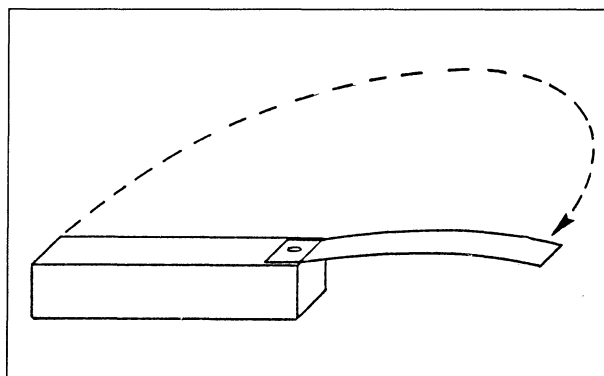

Fig. 2 I-core (yoke) with arresting spring; in this experiment, the spring is turned around 180° so that the core can move easily in the coil.
(1) leaf spring; (2) plug-in holders; (3) contact strip;
(4) I-core (yoke) with arresting spring turned outwards (► Fig. 2);
(5) connecting lead for bridging the lamp
1. Connect the 9 V DC voltage to the circuit while the switch is open (switch position 0). The I-core (4) should slide easily in and out of the core. For this purpose, you must turn the arresting spring around 180°.
► Fig. 2.
2. The contact strip (3) should be attached in the plug-in holder so that it lightly touches the leaf spring (1).